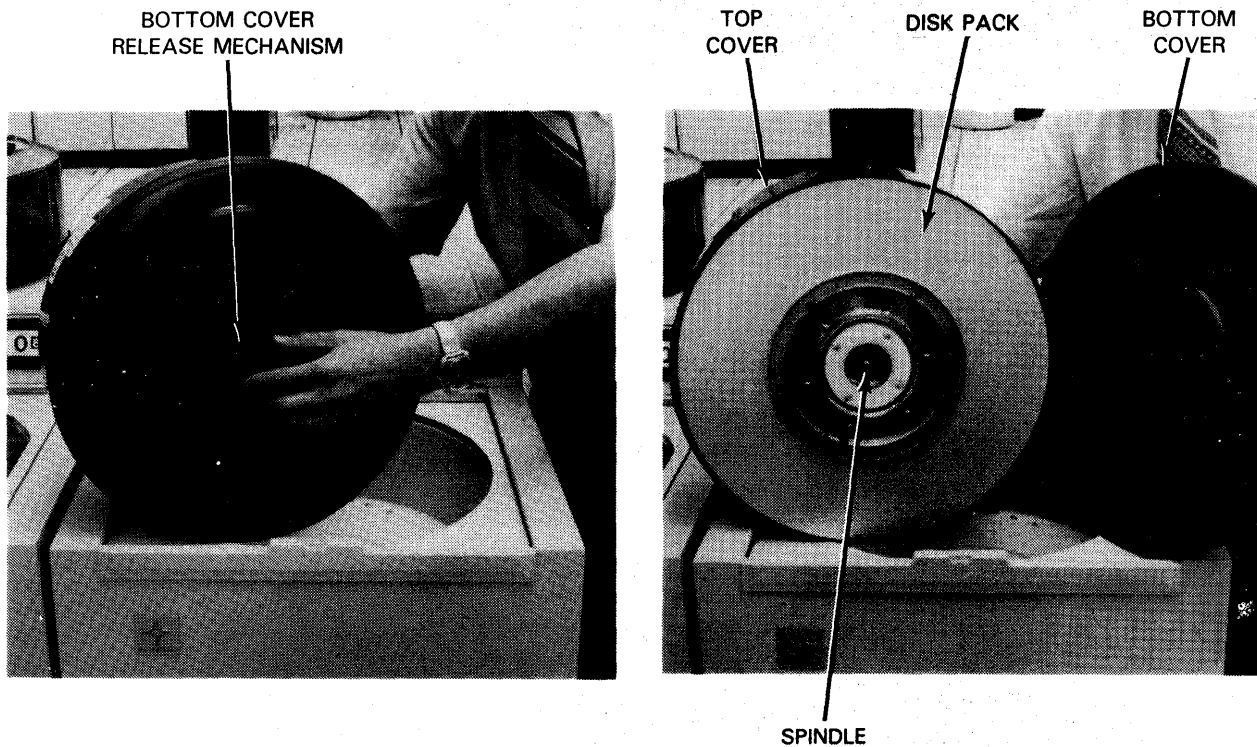

Figure 4-2. Removing the Disk Pack Bottom Cover
- Remove the disk pack bottom cover by squeezing the release mechanism (Figure 4-2).